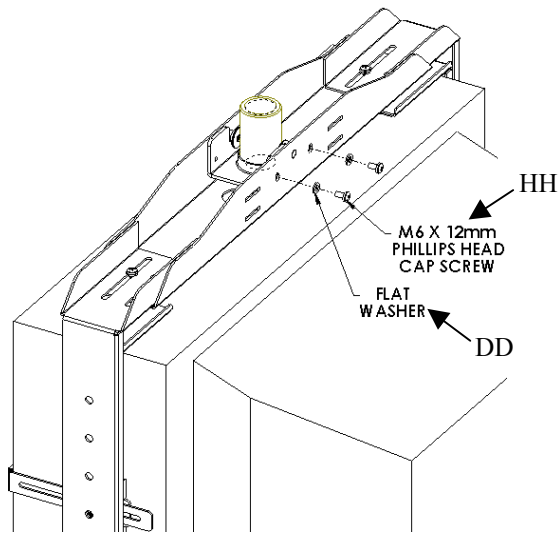
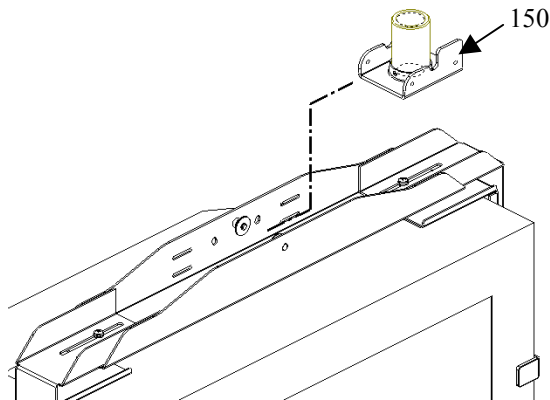

Figure 21. Remove Screws Holding Quick-Connect Bracket
Figure 22. Disconnect Quick-Connect Bracket from CTV Mount
1. Remove two M6 X 12mm cap screws (HH) and flat washers (DD). See Figure 21.
2. With an assistant, carefully lift the monitor and CTV mount up slightly for the purpose of disengaging the quick-connect bracket (150).
3. Carefully move the CTV mount until the mounting buttons (60) fully disengaged with the slots of the quick-connect bracket (150). See Figure 22.